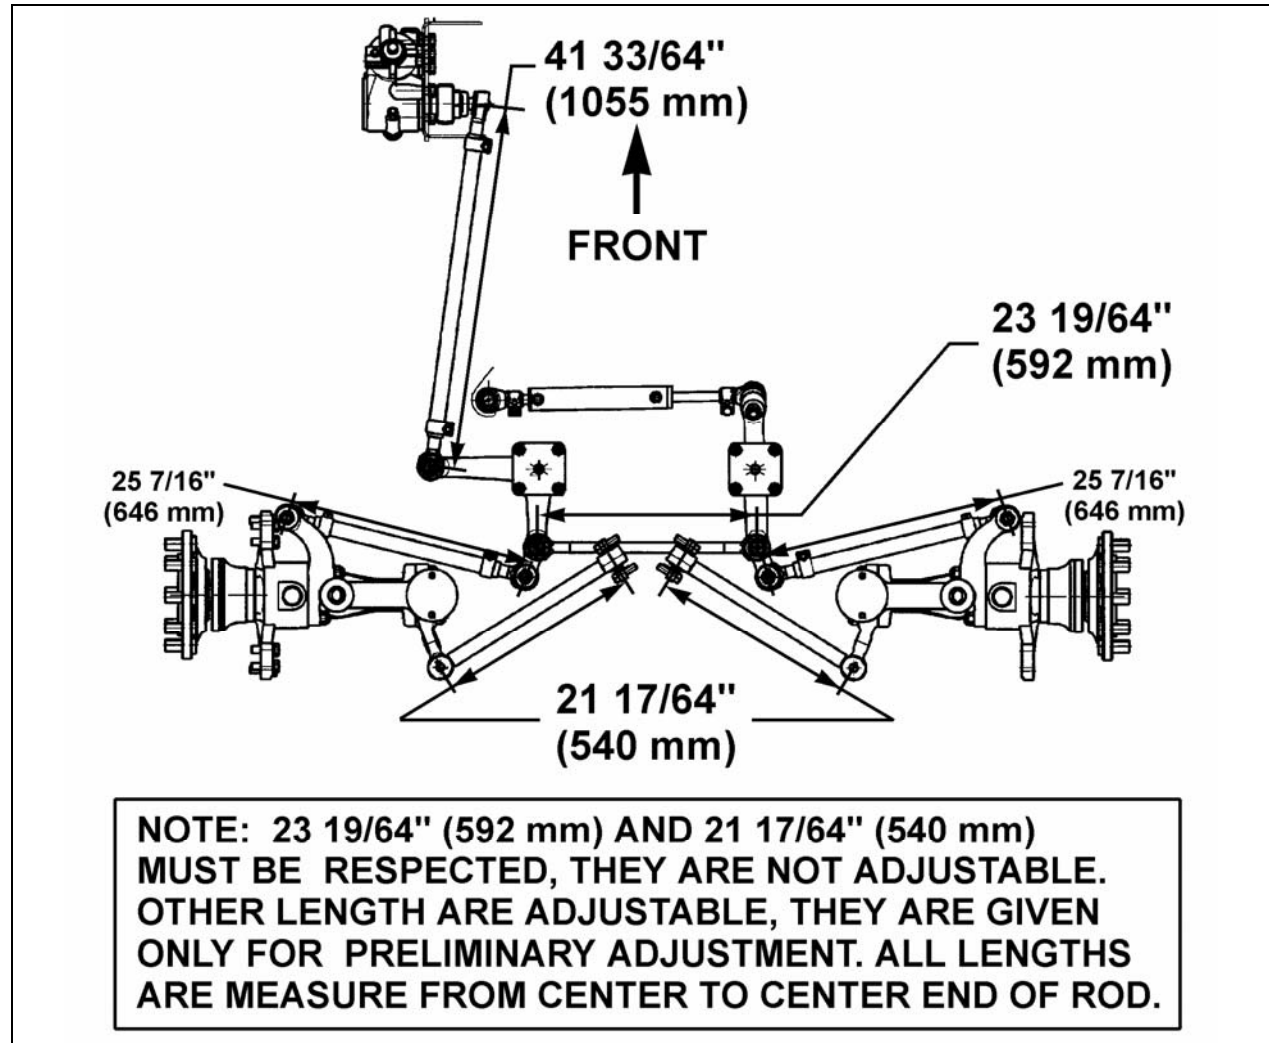

FIGURE 34: STEERING LINKAGE MEASURE
7. Check if the length of the torque rod is 21 17/64" (540 mm) (Fig. 34). Check if the length of the relay rod is 23 19/64" (592 mm)